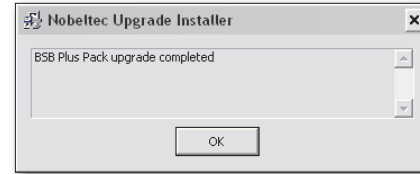

Figure 2.3 - Plus Pack Installation Confirmation
5. The Plus Pack will install. When installation has completed, a confirmation window will appear (see **Figure 2.3**). Click **OK** to close the confirmation window.